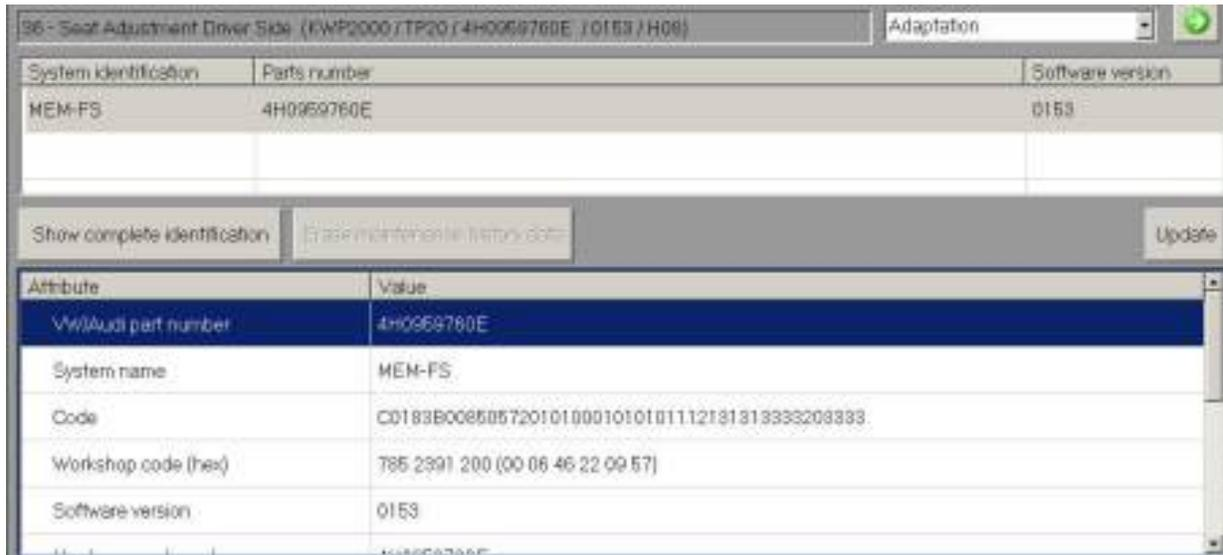

Figure 4. Module coding.
4. Make note of the module coding (Figure 4). The coding should be double-checked after the control module update.